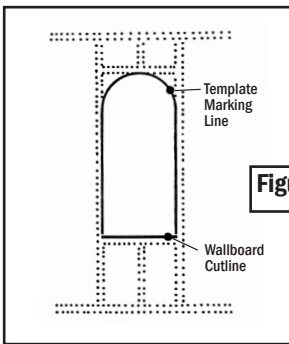

Figure 2
- Mark wallboard along line just above bottom horizontal brace between studs. (*figure 2*)
- Using face of niche as a template, trace cutline on wall, position bottom to rest on horizontal brace. Then cut wallboard. (*figure 2*)